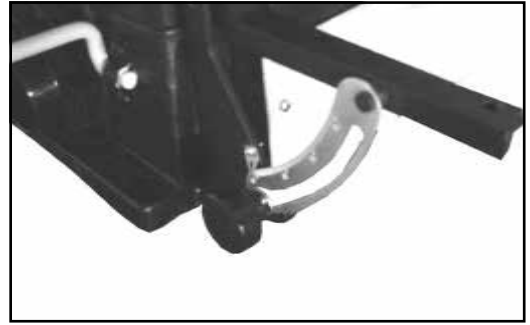

Fig. 04
3. Put a 6mm flat washer on the table lock knob, and place the knob into the tilt scale plate and mount. Hand tighten it only at this time. (See Fig. 04)